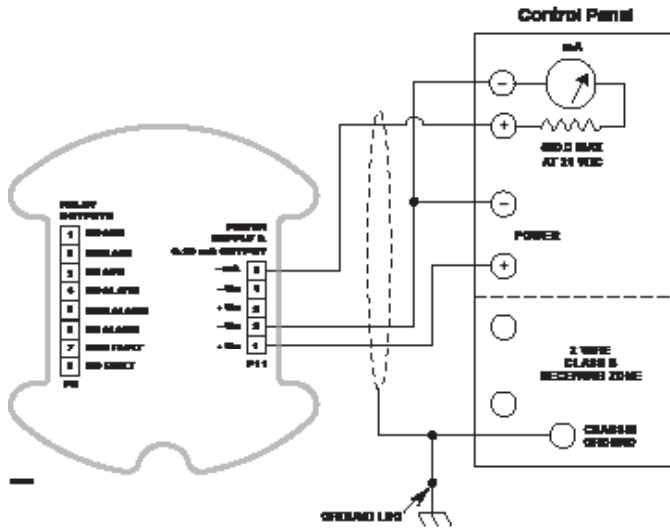

Figure 12—Single Detector Wiring (0-20 mA used, Relays not used)
Depending on the wiring option that is used, jumpers may be required. See Table 3 for the Jumper Usage Guide and Figures 12 to 15 for wiring examples.
- Figures 12 and 13 show wiring for single detector configurations.